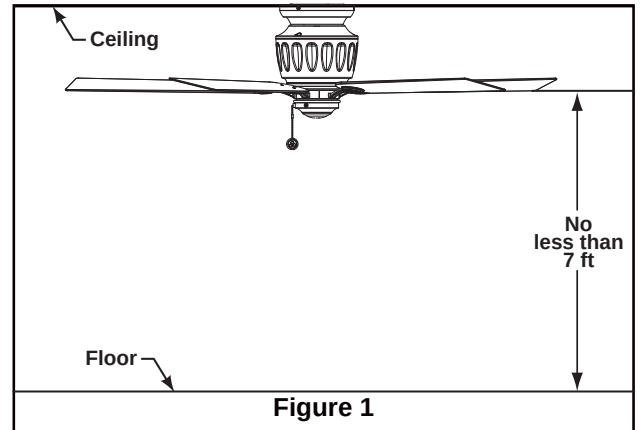
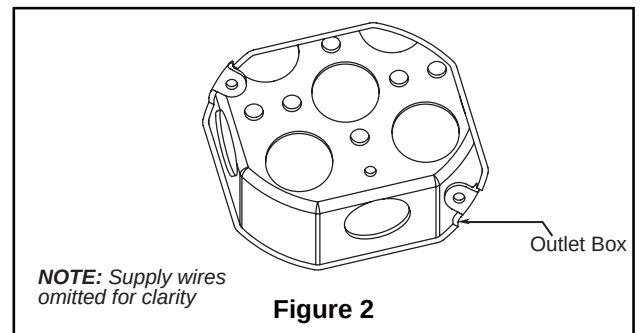

Figure 1
Figure 2
Your new ceiling fan will require a grounded electrical supply line of 120 volts AC, 60 HZ, 15 Amp Circuit. Electrical code requires use of a fan-rated outlet box to support the extra weight and motion associated with a ceiling fan. A fan-rated box will be labeled as such and typically supports up to a 70lbs ceiling fan. Fan-Rated Outlet Boxes vary in ratings and design. Ensure the ratings of your ceiling fan outlet box meet the requirements for the ceiling fan being installed. Figure 1, Figure 2 and Figure 3 depicts different structural configurations that may be used for mounting the outlet box.
Low-profile use (Figure 1)
Deep-profile use (Figure 2)
The fan must be hung with at least 7' of clearance from floor to blades. (Figure 1)
It is critical that the outlet box and the screws are securely anchored to the building structure and capable of withstanding a load of at least 35 lbs. Failure to verify that the screws are properly installed could result in the fan falling. (Figure 2)
- ☐ 1. Securely attach the ceiling junction box acceptable for ceiling fan support into the building structure. Junction box is not supplied with the fan. (Figure 2)
1. Connect the green grounding lead from the ceiling bracket and motor assembly to the supply grounding conductor (this may be a bare wire or wire with green colored insulation). Securely connect wires with a wire connector. Securely connect the white wire (coming from fan) to the white supply (neutral) wire using a wire connector. Securely connect the black wire (coming from fan) to the black supply wire using a wire connector. (Figure 1)
2. After splicing and making the wire connections, the wires should be spread apart and turned upward with the grounded conductor and the equipment-grounding conductor on one side of the ceiling bracket and the ungrounded conductor on the other side of the ceiling bracket. (Figure 1)
1. Assemble the motor assembly to ceiling bracket assembly using the previously removed screws and securely tighten all screws. (Figure 1)
1. Position the blade over the blade holder with threaded posts showing. Make sure the bottom edge of the blade is fully seated against the blade holder. With a phillips screwdriver, tighten #8-32 washer head screws and fiber washers to secure the blade to the blade holder. (Figure 1)
- ☐ 2. Remove and discard the motor stops from the motor assembly by removing the screws. (Figure 2)
- ☐ 2. Remove the three screws in the support bracket and retain the screws for next step. (Figure 2)
- ☐ **2.** Install the fan pull chain coupler. (Figure 2)